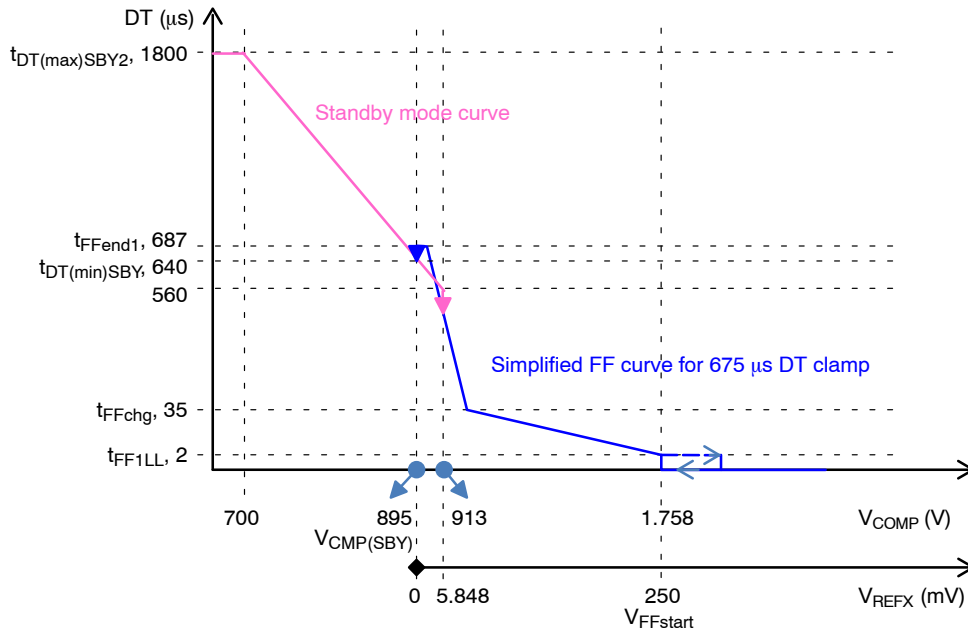

Figure 59. Dead-time Setpoint as a Function of V_{COMP}
dead-time (DT) to keep the output voltage regulated (pink curve in Figure 59).